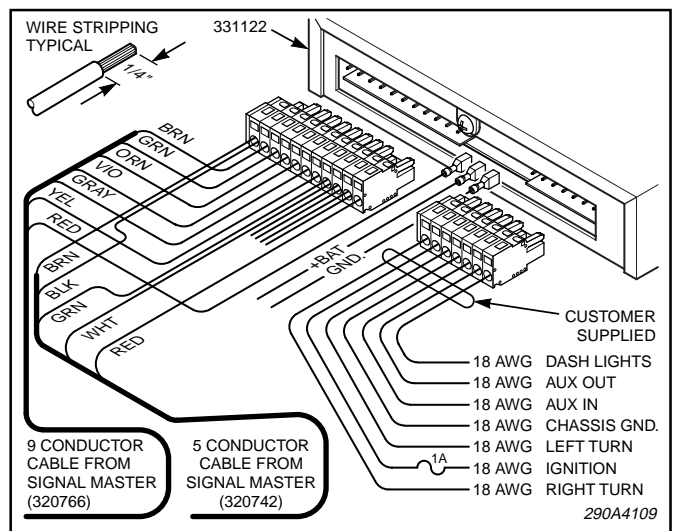

Figure 2.
The control unit is supplied with a seven-position connector, an eleven-position connector, and insulated receptacles to perform the electrical installation. User-supplied, 14-gauge red and black wires are required for the (+) BAT and (-) GND connections. User-supplied, 18-gauge red and green wires are required for the (+) IGN and (-) CASE GROUND connections on the seven-position connector. In addition, user-supplied 18-gauge wire is used for the AUX IN, AUX OUT, TURN SIGNAL, and DASH LIGHTS connections. Using figure 2 as a guide, complete this portion of the installation as follows:
To avoid damage and ensure proper operation, the red and black wires **MUST** be installed as shown in figure 2.
- a. Strip 1/4" of insulation off of each wire. See figure 2. Place the stripped end of each wire into the respective insulated receptacle (provided) and crimp.
b. Connect the red and black terminated wires to the tab terminals as shown in figure 2.
See figures 2 and 3. Connect a user-supplied 18-gauge wire to the seven-position connector's DASH LIGHTS connection. Route the wire to the vehicle instrument light circuit (if backlight dimming is required) or the accessory terminal of the ignition switch and terminate as required.
c. Connect both SignalMaster cable's 18 gauge wires to the eleven-position connector as shown in figure 2. Connect the 12 gauge red wire from the 320742 to the 11-position connector as shown in figure 2.
e. Connect the red terminated wire to the tab terminal as shown in figure 2.